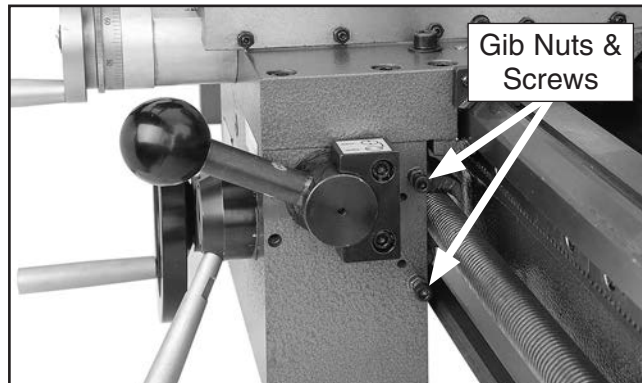

Figure 124. Half nut gib adjustment set screws.
3. Loosen gib nuts and adjust screws in small, even increments so one end of the gib does not become tighter than the other (see **Figure 124**).